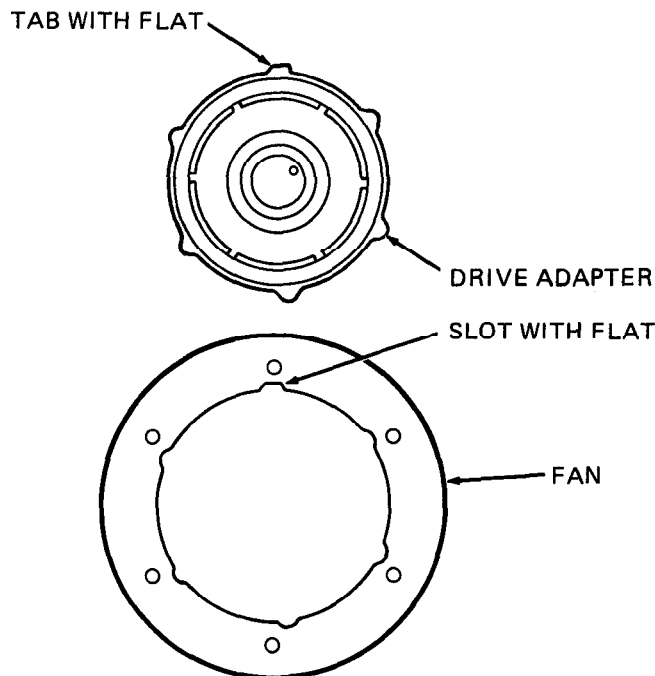

Figure 7-23. Fan and Drive Adapter Alignment Tabs.
- (2) Place flywheel assembly (12) on engine crankshaft. Be sure that hole in flywheel engages dowel on crankshaft.
- (3) Secure flywheel assembly with screws (10) and washer plate (11). Torque screws to 57-58 ft lbs (77-79 N.m).
- (4) Position fan (9) on flywheel assembly (12). Make sure that flat side on one of the fan slots aligns with the one tab with a flat on the drive adapter. Refer to Figure 7-23.